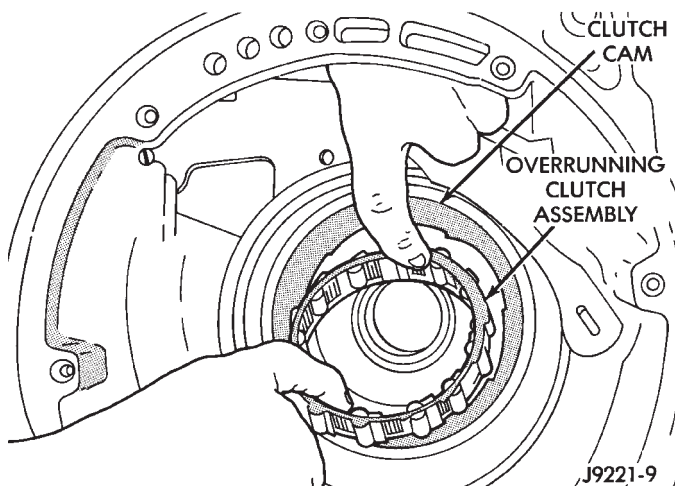

Fig. 116 Overrunning Clutch
(29) Remove overrunning clutch assembly (Fig. 116). Assembly can be removed without displacing rollers and springs if care is exercised. Note position of rollers and springs for assembly reference.